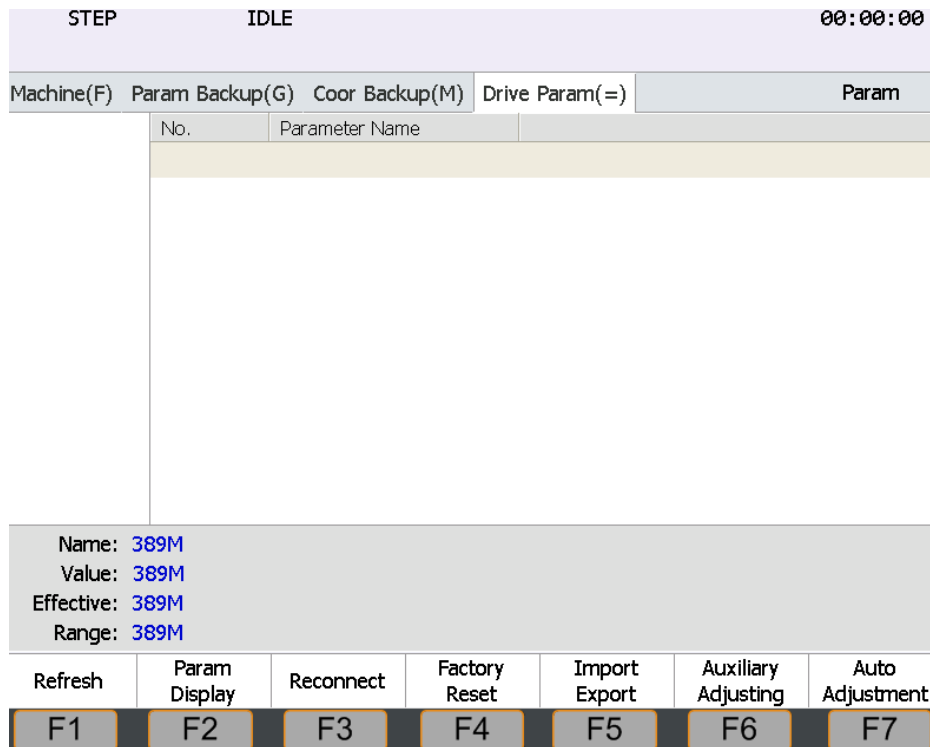

Figure 5-4 Drive parameter setting
1. <Parameter> → <= Drive Param> (open the interface shown in figure 5-4).